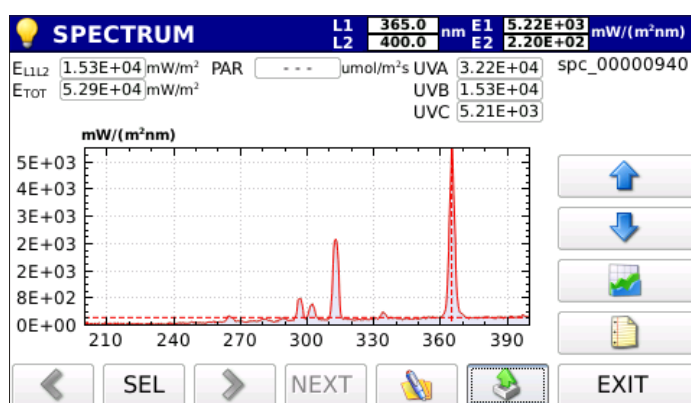

Figure 1.4
**UVA Irradiance** (W/m²), **UVB Irradiance** (W/m²) and **UVC Irradiance** (W/m²) (figure 1.4).